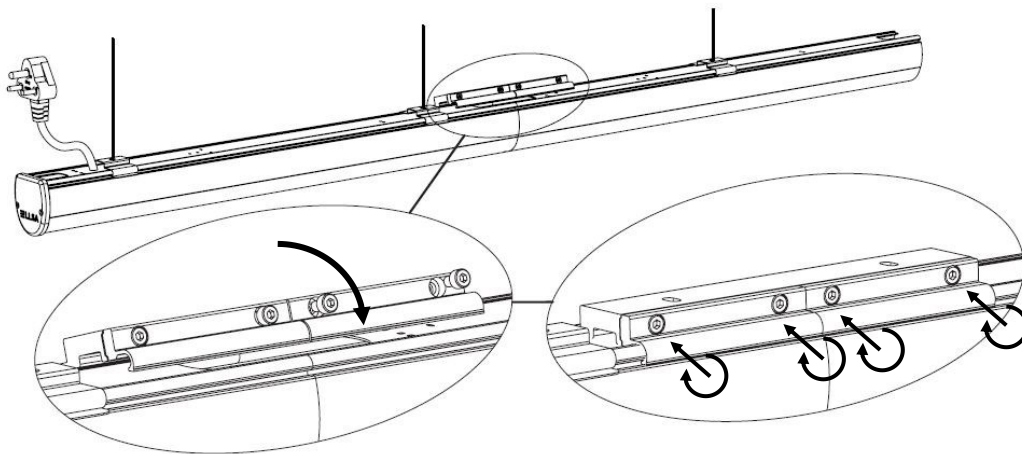

FIG. 4
- Attach the connector bracket to mechanically join the luminaires together. Fig. 4